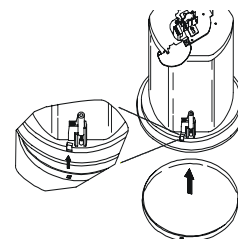

Figure 11
Step 8 – Insert the Grille. Consider which direction the logo is facing and press the grille into place until the front of the grille is flush with the rim. Please notice that the three raised points should seat appropriately in the three indentations on the rim. Make sure grille is securely seated to prevent it from vibrating loose and falling. (Figure 11)